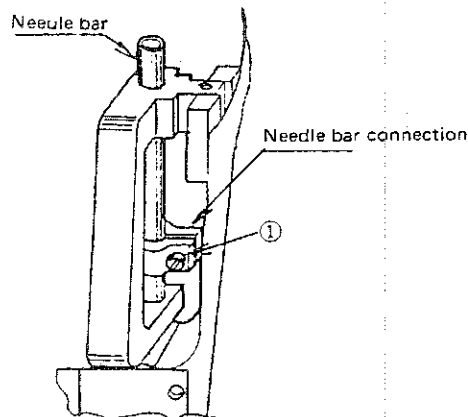
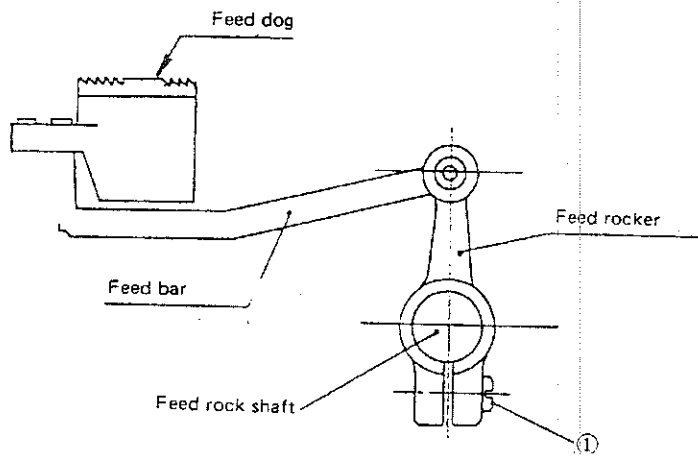

Fig. 4
Fig. 6
<p>If the needle bar is installed twisted ;</p> <ol style="list-style-type: none"> 1. Set the stitch length to 0 mm. 2. Turn the handwheel until the needle bar has come down to the lowest point of its stroke. 3. Loosen screw ① (Fig. 4). 4. Turn the needle bar until both needles stay in the middle of their needle feed slots. Tighten screw ① (Fig. 4). <p>(CAUTION)</p> <p>Take care not to change the height of the needle bar.</p> <ul style="list-style-type: none"> ○ Don't turn the needle clamp before screw ① (Fig. 4) is loosened. Otherwise, the needle clamp may come down accidentally while stitching. <p>If the needle deflects in the lengthwise direction of the needle feed slot ;</p> <ol style="list-style-type: none"> 1. Loosen screw ① (Fig. 6) 2. Adjust the position of the feed rocker so that both needles stay in the middle of the slots. 	<ul style="list-style-type: none"> ○ If the needles fail to enter the middle of their slots, stitch skipping, thread breaking or loose stitch may occur. ○ If the needles enter the bar end of the elongated slots (2 x 3 mm) viewed from the operator's side, the needle thread forming a stitch comes out too much on the fabric. * If the needles enter the near end of the elongated slot, thread trimming failure may occur.
(2) Needle-to-hook relation